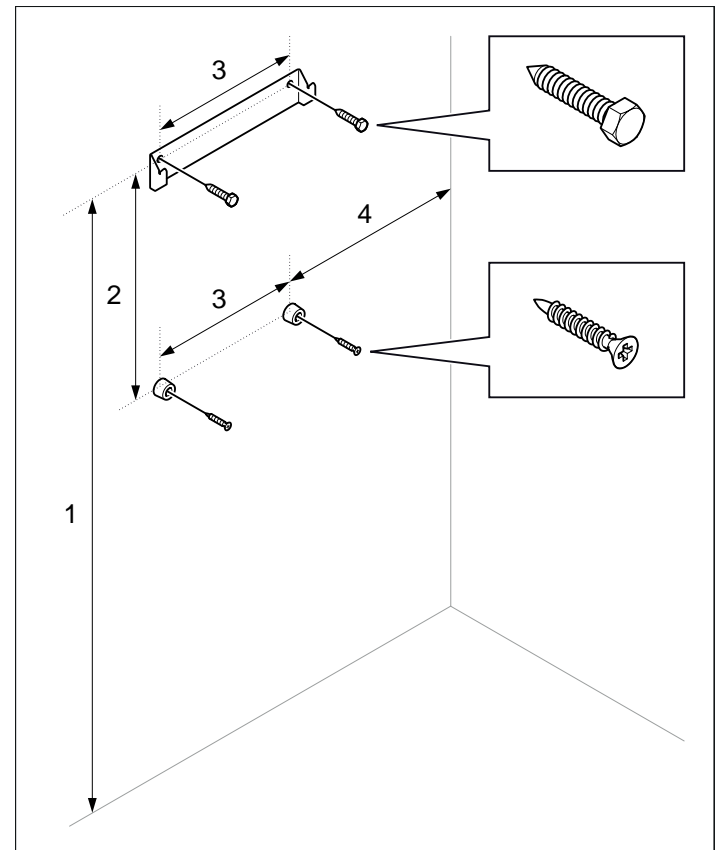

Figure 8: Bracket with screws and spacers
1. Attach the bracket and spacers to the wall following the specified dimensioning (see Figure 8).